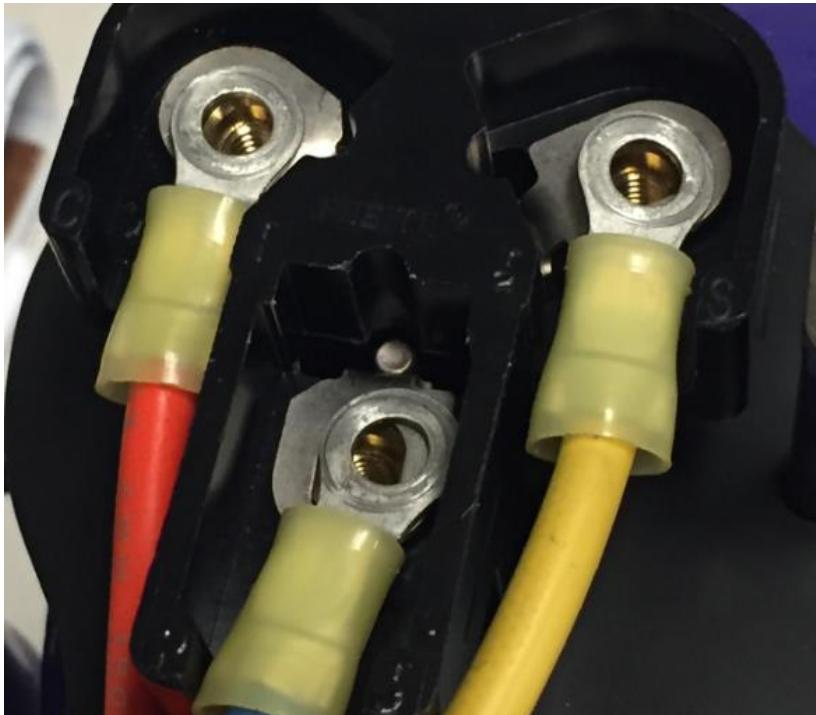

Figure 4
- Place the harness ring terminals on top of the folded over compressor terminals; shown in Figure 4